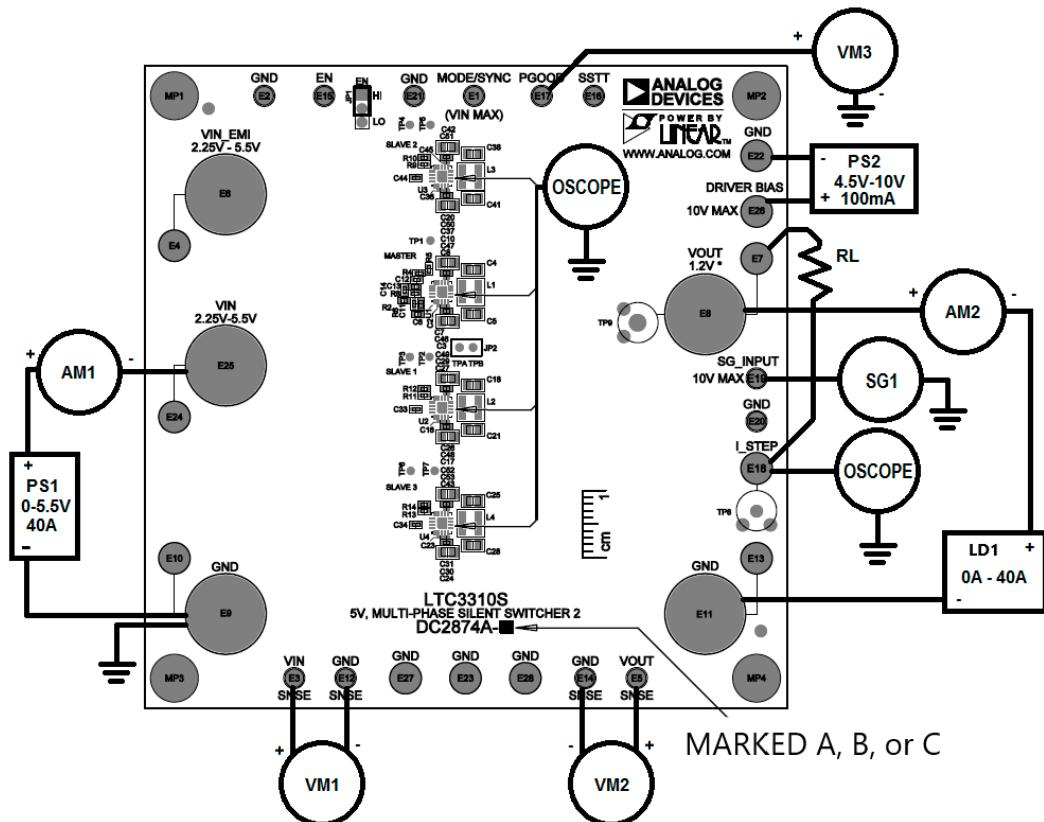
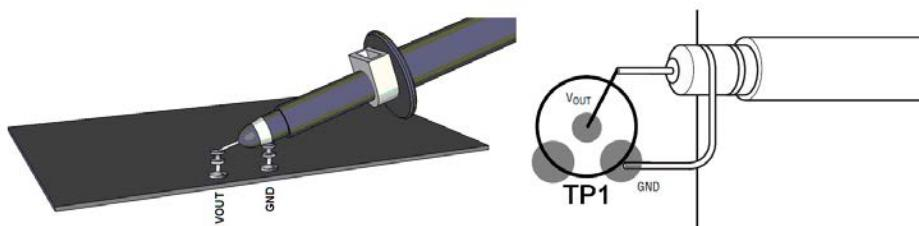

Figure 1. Test Setup for the DC2874A Demo Board
Figure 2. Technique for Measuring Output Ripple and Step Response
Demonstration circuit 2874A is easy to set up and evaluate the performance of the LTC3310S in multiphase operation. Refer to Figure 1 for the proper measurement equipment setup and jumper settings. Follow the procedure below to familiarize yourself with the DC2874A.
**NOTE:** For accurate  $V_{IN}$ ,  $V_{OUT}$  and efficiency measurements, measure  $V_{IN}$  at the VIN SNSE and GND SNSE turrets and  $V_{OUT}$  at the VOUT SNSE and GND SNSE turrets as illustrated as VM1 and VM2 in Figure 1. When measuring the input or output voltage ripple, care must be taken to avoid a long ground lead on the oscilloscope probe. Measure the output voltage ripple by touching the probe tip directly across the output turrets or to TP1 as shown in Figure 2.
3. Slowly increase PS1 to 1.0V. If AM1 reads less than 20mA, increase PS1 to 3.3V. Verify that VM1 reads 3.3V and VM2 reads 1.2V. Record VM1, VM2, VM3 AM1 and AM2. Connect an oscilloscope voltage probe as shown in Figure 2. Set Channel to AC coupled, voltage scale to 10mV and time base to 100ns. Record  $V_{OUT}$  ripple voltage. Verify that PGOOD voltage is above 3V. Set the EN Jumper, JP1, to the HI position.
5. To test the transient response with a base load, turn off LD1 and add the desired resistor to produce a minimum load between VOUT and I\_STEP turrets (RL shown on Figure 1).